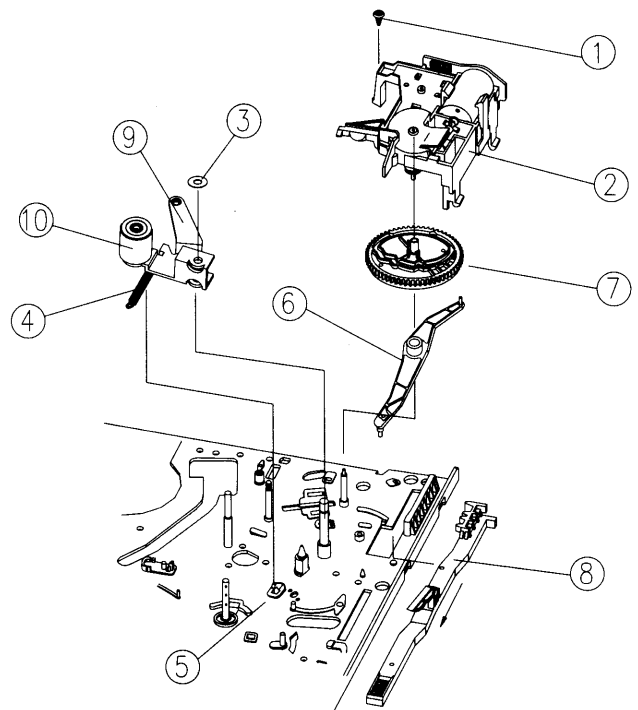

Fig.3-11 L/C BRKT. PINCH LEVER, CAM GEAR, RELAY LEVER, F/L RACK REMOVAL
### 3-6. L/C BRACKET ASS'Y REMOVAL (See Fig.3-11)
### 3-7. PINCH LEVER TOTAL ASS'Y REMOVAL (See Fig.3-11)
### 3-8. CAM GEAR, RELAY LEVER AND F/L RACK REMOVAL (See Fig.3-11)
- a. Remove the CAM GEAR ⑦ from the MAINBASE. (Fig.3-11)
- b. Remove the RELAY LEVER ⑥ from the MAINBASE. (Fig. 3-11)
- c. Remove the F/L RACK ⑧ from the MAINBASE by pulling it in the direction of the arrow.